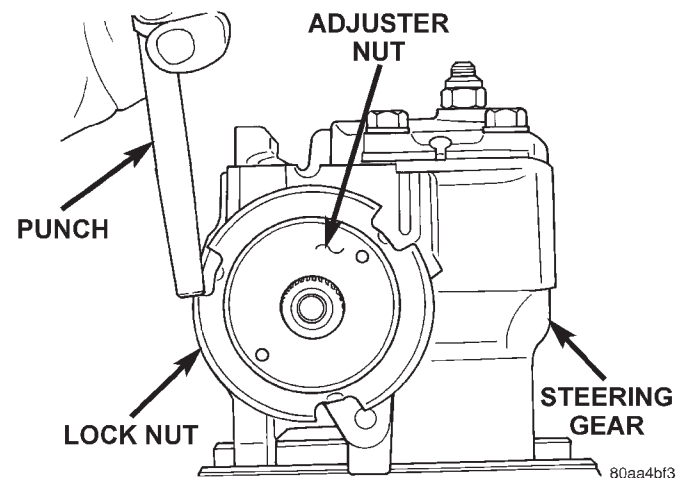

Fig. 11
- (1) Remove lock nut (Fig. 11) and.